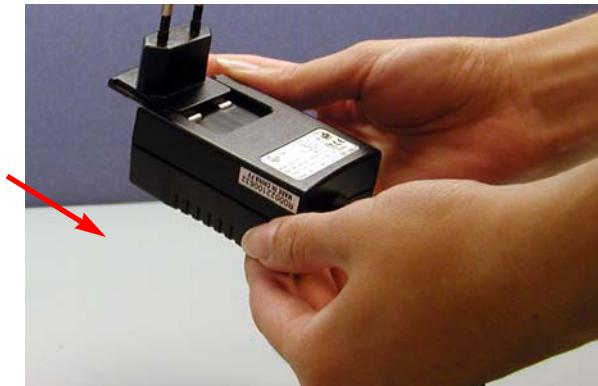

Figure 4. Inserting a New Plug Configuration
4. Push the new plug configuration down until it snaps into place (see Figure 4).